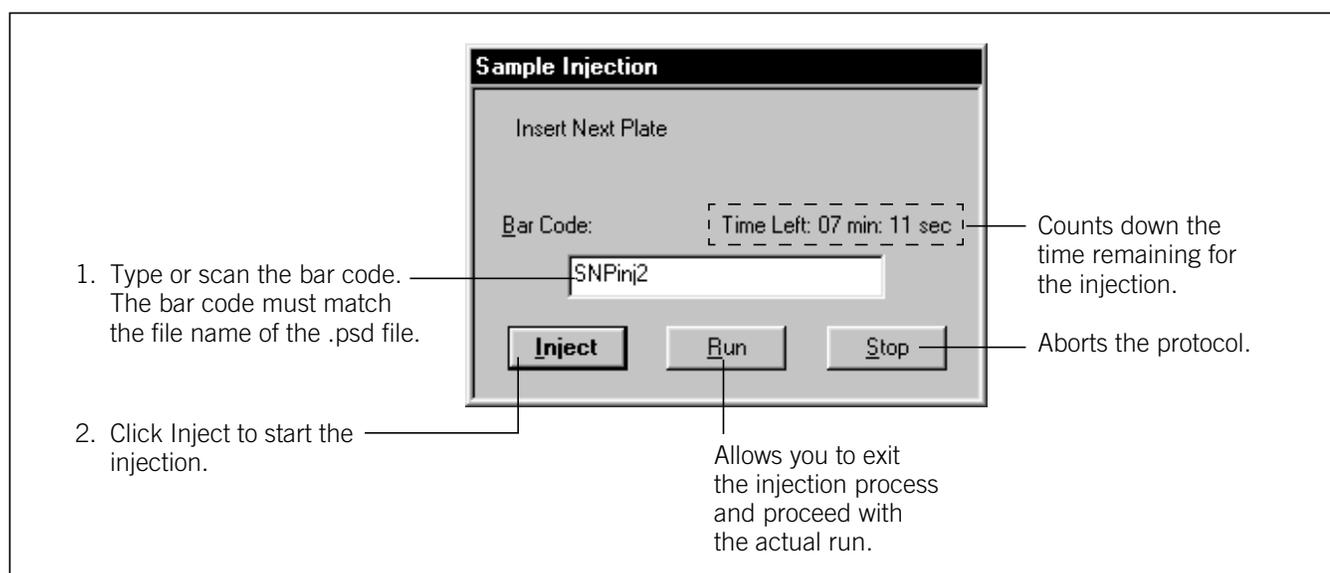

Figure 15-9. The Sample Injection window displaying the time remaining for the injection.
7. When the Sample Injection window appears for the next injection (figure 15-9), note that the timer in the window begins counting down the time remaining in the injection timeout period. Do one of the following: